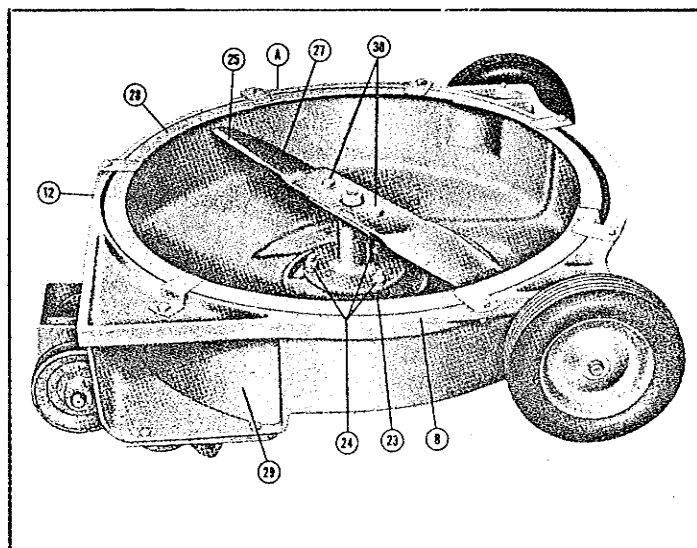

Fig. 3
Finer adjustments of cutting height may be obtained by removing one or several of the shims at (23, Fig. 3). To remove shims, loosen three nuts (24), remove shims from top of flange and place below flange, between flange and nuts, and tighten nuts securely. To check level of blade, measure distance from one end of blade (25) to bottom of housing at SIDE. Then swing blade around and make same measurement at other SIDE. Measure at points (A) and (B). If measurement is not the same at both sides, insert or remove shims until blade is level.
Fig. 3 which illustrates 24" leaf mulcher, consists of 4 pieces, a special shorter mulching blade (27), mulching ring (28), baffle plate (29) and bracket for plate.
Bolt bracket to baffle plate (29, Fig. 3), leaving bolts a little loose for further adjustment. Install mulching ring and then tighten ring and baffle plate bolts. Be sure cap screw heads of ring are to the bottom of housing.